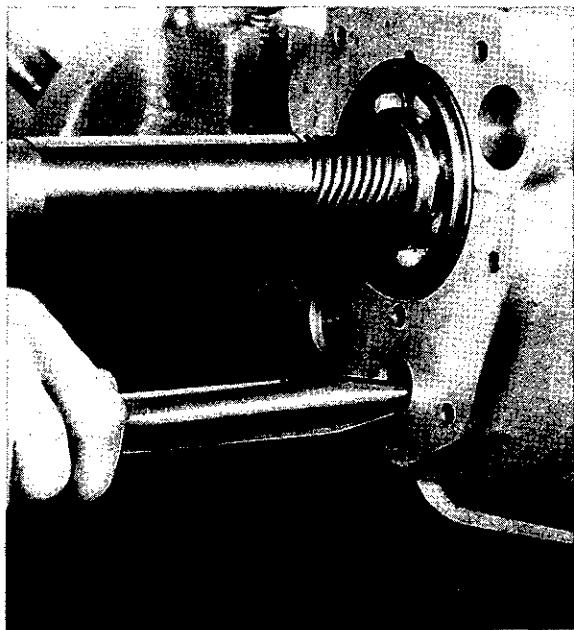

Fig. 30. Showing pilot tool for aligning countershaft gears and rear thrust washer—Tool No. 20SM-76
20. Utilize a pilot to align thrust washer and countershaft gear, as shown in Fig. 30, driving out needle roller retaining tube and countershaft, which was fitted to position forward thrust washer, with pilot, subsequently ejecting the pilot tool with the actual countershaft. It is important, when carrying out this operation, that the pilot spindle should maintain contact with the retaining tube or countershaft, as appropriate, throughout the operation, alternatively there is danger that the needle rollers may leave their recess.
be necessary to remove the gearbox and withdraw the front cover and to fit a new oil seal with the tool shown in Fig. 29 and to use protective sleeve, shown in Fig. 30, when replacing cover.